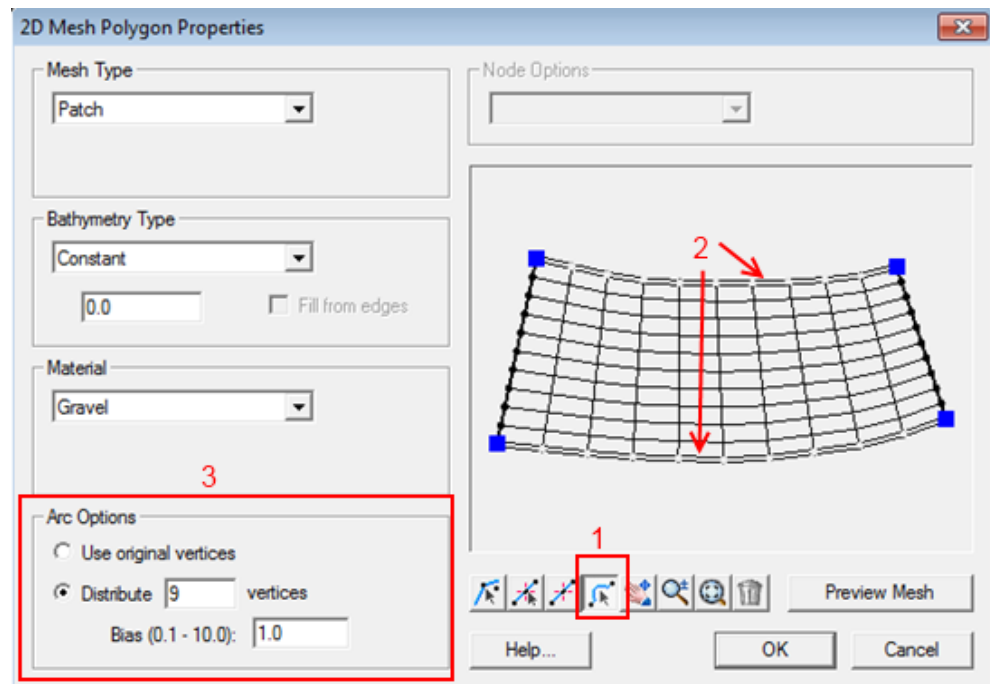

Figure 7 Setting the arc options in the 2D Mesh Polygon Properties dialog
5. Click on the **Select Feature Arc**  tool in the dialog (labelled “1” in Figure 7).
6. Select both banks of the channel using the *Shift* key (labelled “2” in Figure 7).
8. Click the **Preview Mesh** button. Both arcs will now have the same amount of vertices, removing any triangular elements (labelled “3” in Figure 7).